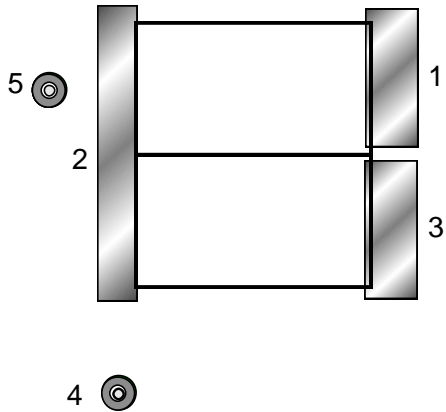

Figure 27
- ☐ Locate the larger binocular coil form for use at T2. Note: T2 may vary in length from 1" to 1 1/8" (25 to 29 mm). The given pads can accommodate either length. Figure 27 shows all five of T2's pads.